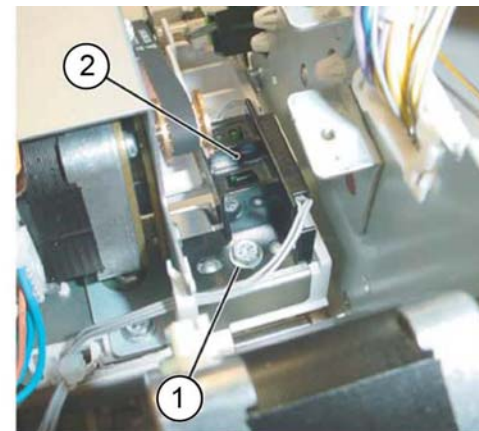

Figure 3 Front tamper home sensor assembly removal
8. Remove the front tamper home sensor assembly, Figure 3:
- a. Remove the screw (1).
- b. Remove the front tamper home sensor assembly (2).